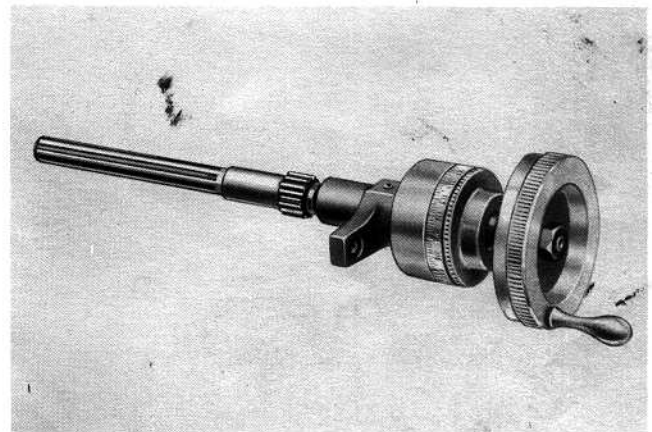

Figure 2
5. Take the cross slide screw assembly apart. Re-assemble the parts on cross slide screw furnished with taper attachment -- refer to figure 2.